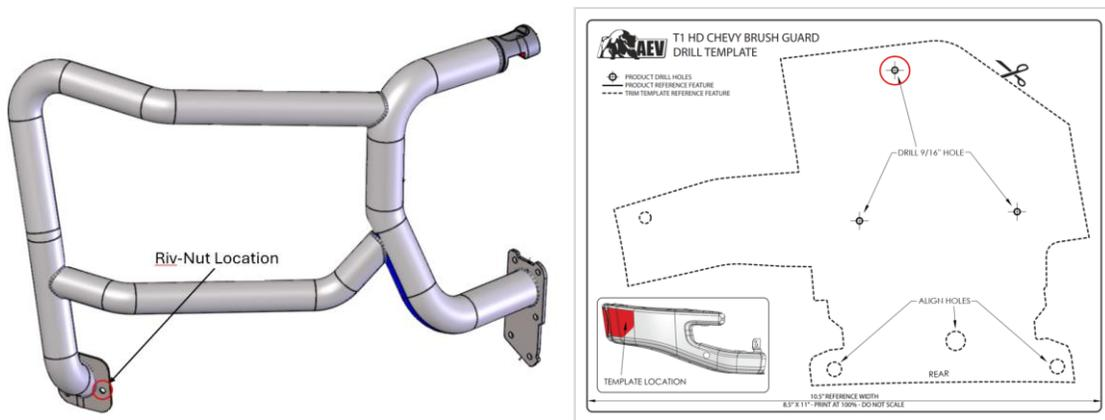

Figure 16
3. Using rivnut and tool provided, assemble rivnut in forward-most 9/16" hole. See Fig. 16